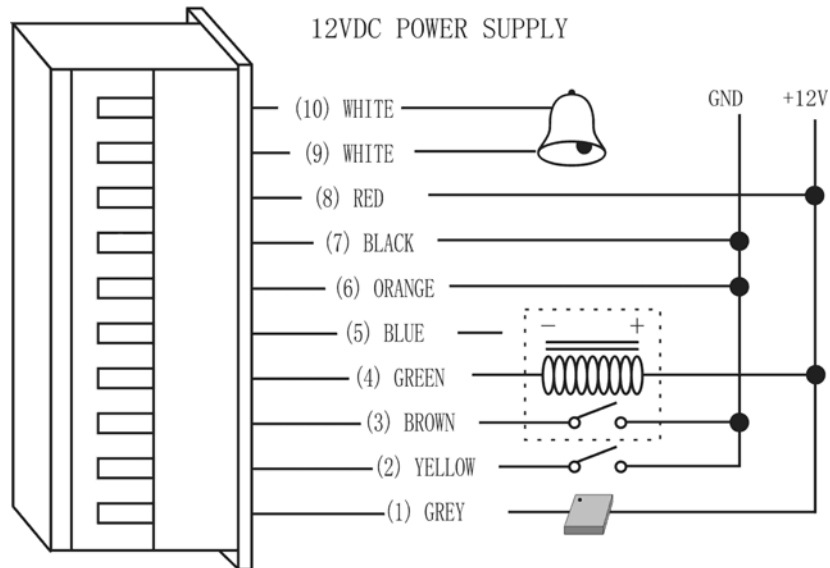

Figure 5
1. Unplug the cable harness and connect the necessary cables, (See Figure 5).
3. Plug the cable harness, (See Figure 5)